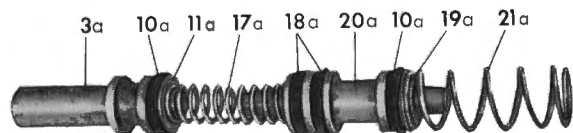

Fig. 42-3a/29
5. Insert the fitting sleeve (29) in the housing (22) (Fig. 42-3a/28).
7. Slide the piston cup washer (9a), the primary cup (10a), the thrust ring (11a), and the spring retainer (19a) together with the pressure spring (21a) on the intermediate piston (20a). (Figs. 42-3a/27 to 29).
8. Slide the intermediate piston assembly (20a) into the housing. **Do not use force** since otherwise the cups may be damaged (Fig. 42-3a/29).